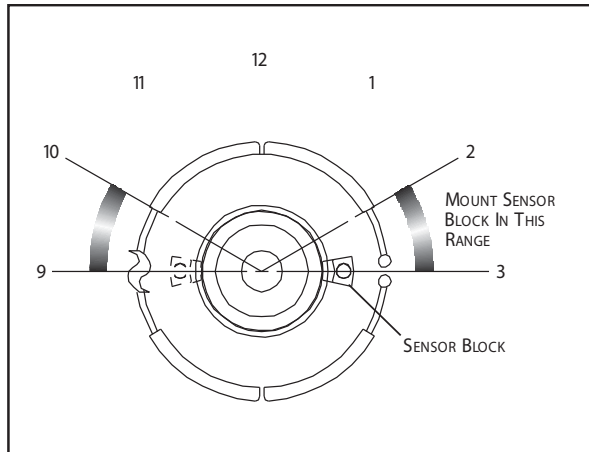
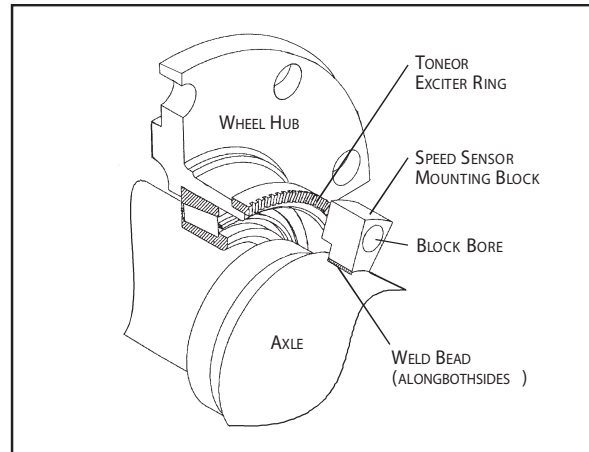

Figure 9
Figure 10
2. With the hub in place, locate the sensor mounting block at the 9 or 3 o'clock position on the axle spindle to lessen the effect from axle flexure due to loading (see figure 9) manually hold the sensor block in place and scribe its location on the axle spindle (see Figures 10 and 12).
6. Weld the sensor block to the spindle axle; weld along both sides of the block (see Figure 10).